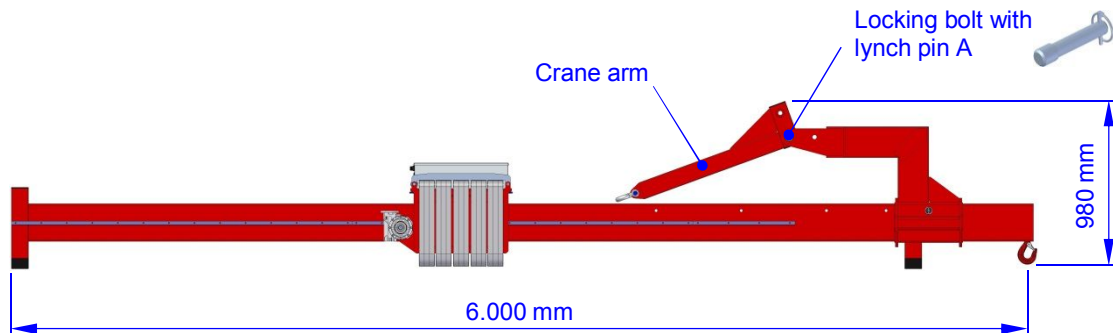
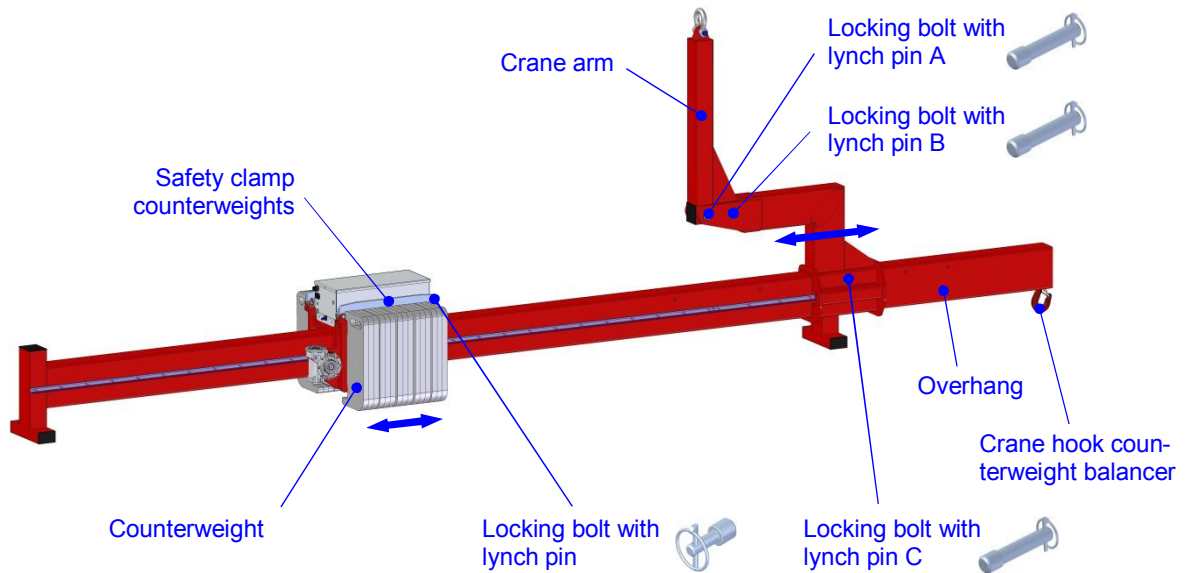

Fig. 4: Storage of the counterweight balancer
Fig. 7: Counterweight balancer assembled
- Move the counterweights into the position shown in figure 4.
- Remove the locking bolt with lynch pin B (see fig. 7).
- Fold the crane arm into the position shown in figure 4.
- ⇒ If the crane arm is in transport position (see fig. 4), fold it into the position shown in figure 7 by performing the following steps:
- Fold the crane arm into the position shown in figure 7.
When attaching the counterweights make sure that they are always completely engaged and secured with the safety clamps (see fig. 7) in order to prevent them from falling out. Always lock the safety clamps using the locking bolts and lynch pins provided in the delivery!